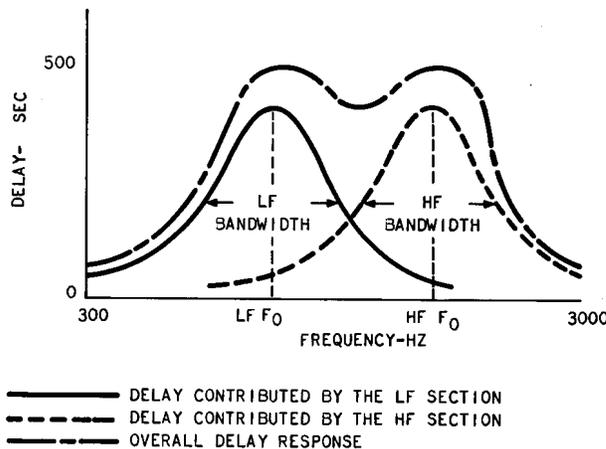

Fig. 5—Typical Delay Characteristics of the 950B-Type Equalizer
3.03 To illustrate how delay equalization is accomplished, consider the typical transmission function of the 950B-type equalizer as shown in Fig. 5. Two parameters characterize each of the basic delay bump shapes:
- (b) The bandwidth (BW), which is a measure of how wide the delay bump is.